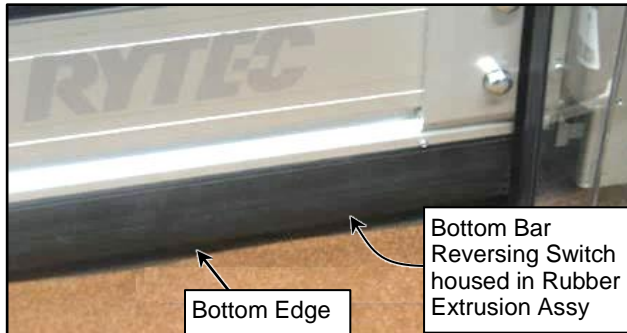

Figure 45
3. When the door is a few feet from the fully closed position, hit the rubber reversing edge that runs along the bottom edge of the door. Stand outside the photo eyes to avoid activating the photo eye circuit. (See Figure 45)